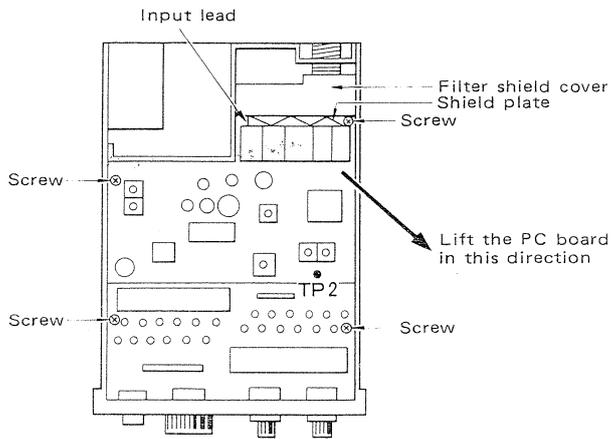

Fig. 4
- (1) Remove the plastic cover over the crystals with two retainers.
- (2) Remove the shield cover of filter unit upward.
- (3) Remove the spring shock absorber upward.
- (4) Unsolder the input lead from the antenna terminal.
- (5) Unscrew RX PC board.
- (6) Lift TX PC board at the rear in the direction as shown in Fig. 4.